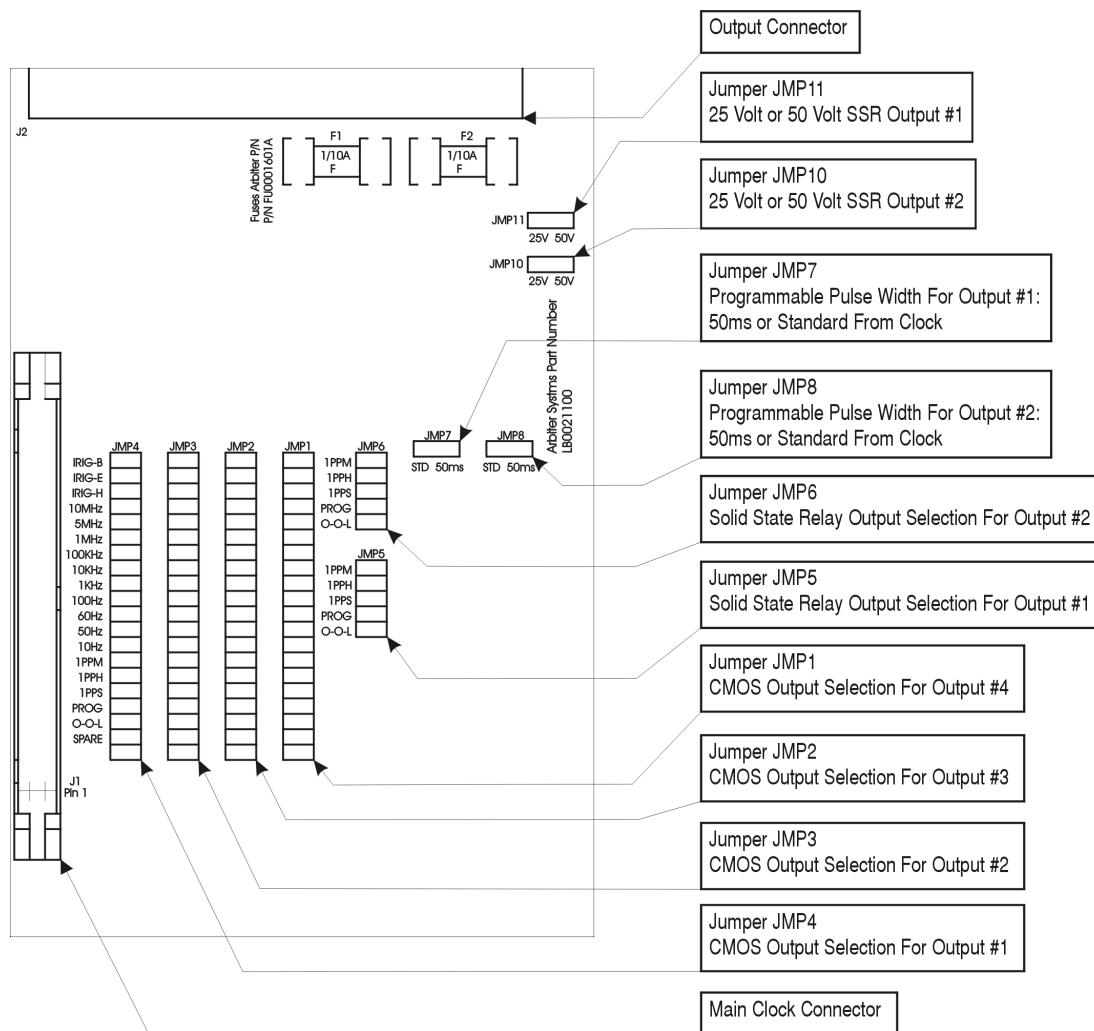

Figure C.18: Option 29 Jumper Locations
Available Signals: Jumper selectable to any of the digital signals available from the clock mainframe plus on board generation of 1 PPM and 1 PPH for the 1093 clock models. See Figure C.18 for Jumper location and selections.
3. Locate the appropriate Jumper using Figure C.18 and move the jumper to the desired setting.